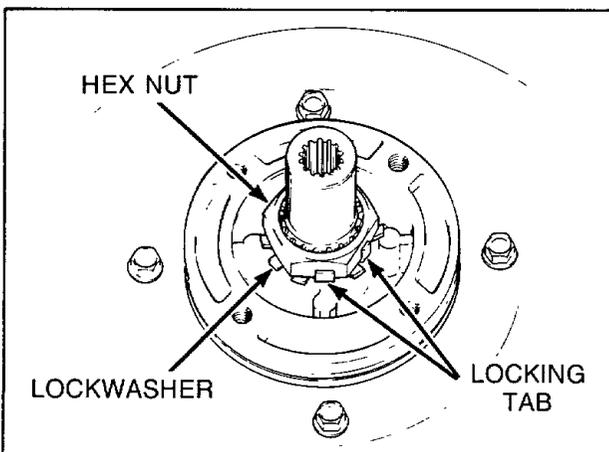

Figure 29
- Straighten bent tab(s) on lockwasher, *Figure 29*, then remove hex nut using No. 237P4 Hex Wrench.
IMPORTANT: Torque locknut down between 40 to 70 foot pounds (54.23 to 94.91 N·m). If a torque wrench is not available, tap hex wrench with a hammer until hub turns or until nut will no longer tighten. After nut has been tightened, bend at least two locking tabs on lockwasher into place on hex nut, *Figure 29*.
- i. Straighten bent tab(s) on lockwasher, *Figure 29*,